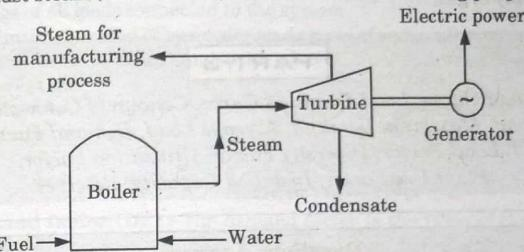

Fig. 1.6.1. Implant power generation system (Cogeneration).
7. The implant power generation is used in industries and is shown in Fig. 1.6.1. The industry needs both process steam and electricity.